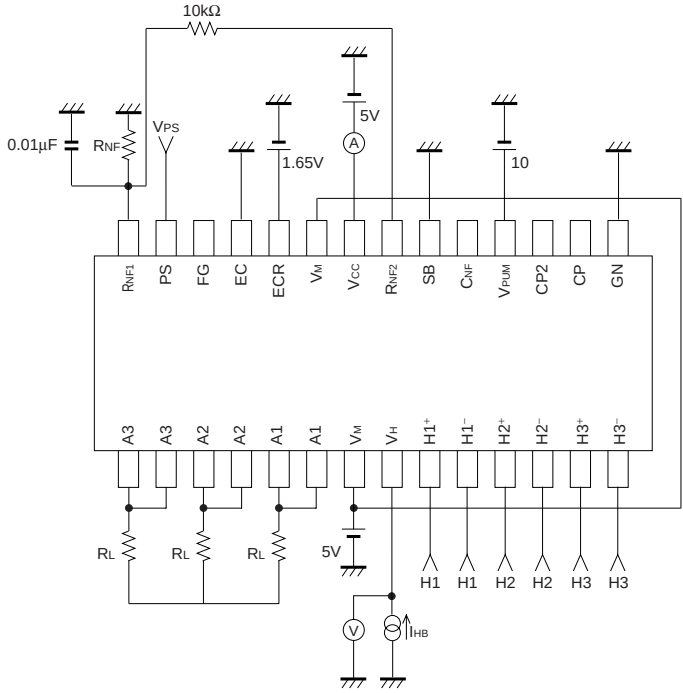
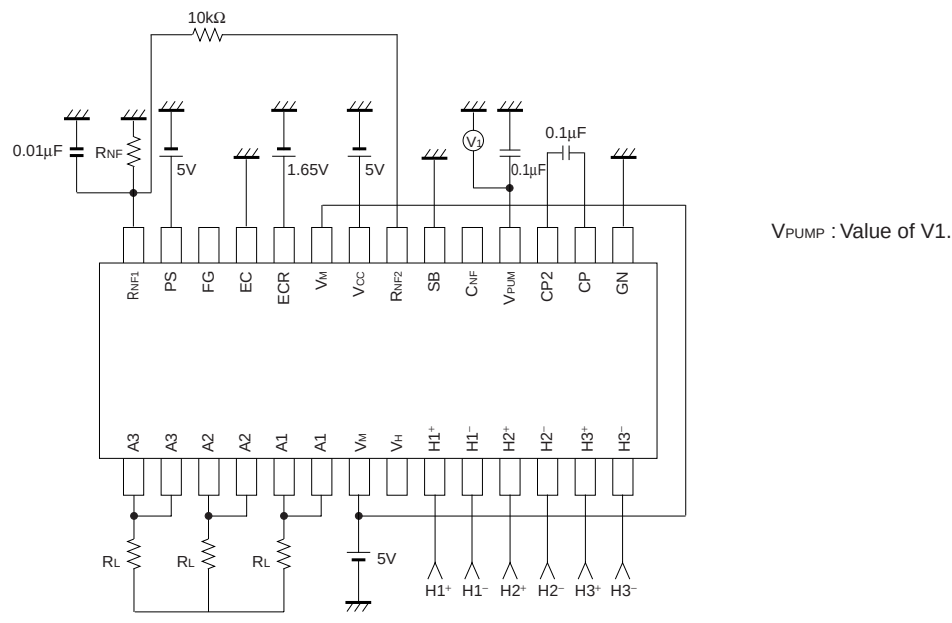

Fig.2
Fig.9
1. Value of resistor (Fig.2~Fig.9)